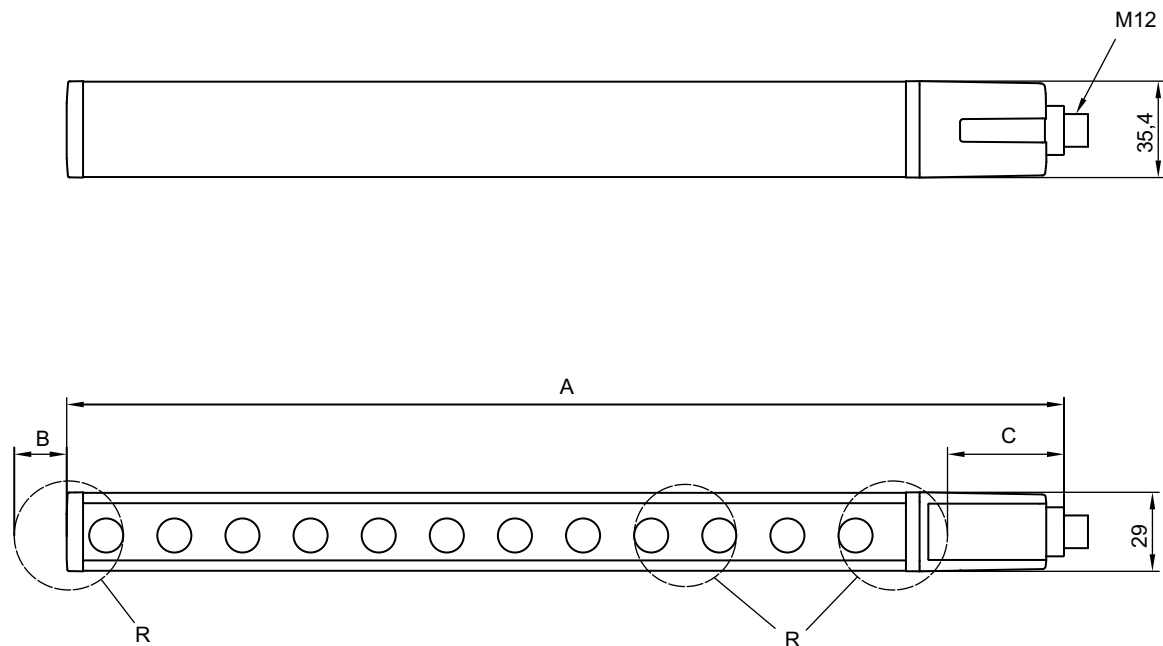

Figure 14.1: Dimensions of transmitter and receiver
Dimensions	see figure 14.1 and see table 14.7
b) Total height, see figure 14.1